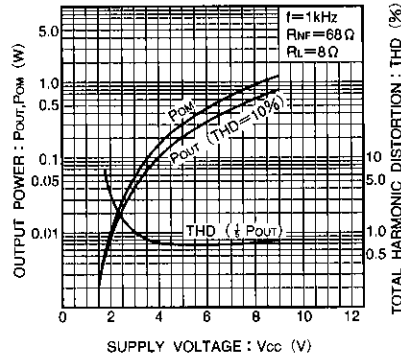

Fig. 2 Rated and max. output power and total harmonic distortion vs. supply voltage
- 1) High output. $POUT = 330mW$ ($V_{CC} = 6V$ and an 8 Ω load (THD = 10%)). See Fig. 2.